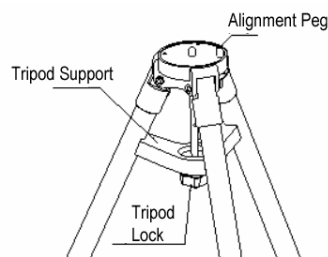

Figure 1
1. **Setup tripod:** Expand the tripod legs and lock the Tripod Support so that the tripod legs stay open (Figure 1). Adjust the tripod height by unlocking and re-locking the tripod legs to desired height. Position the tripod so that the Alignment Peg faces south. **(The Alignment Peg may be moved to the opposite position if used at latitude lower than 20° to avoid counterweights hit the tripod leg)**